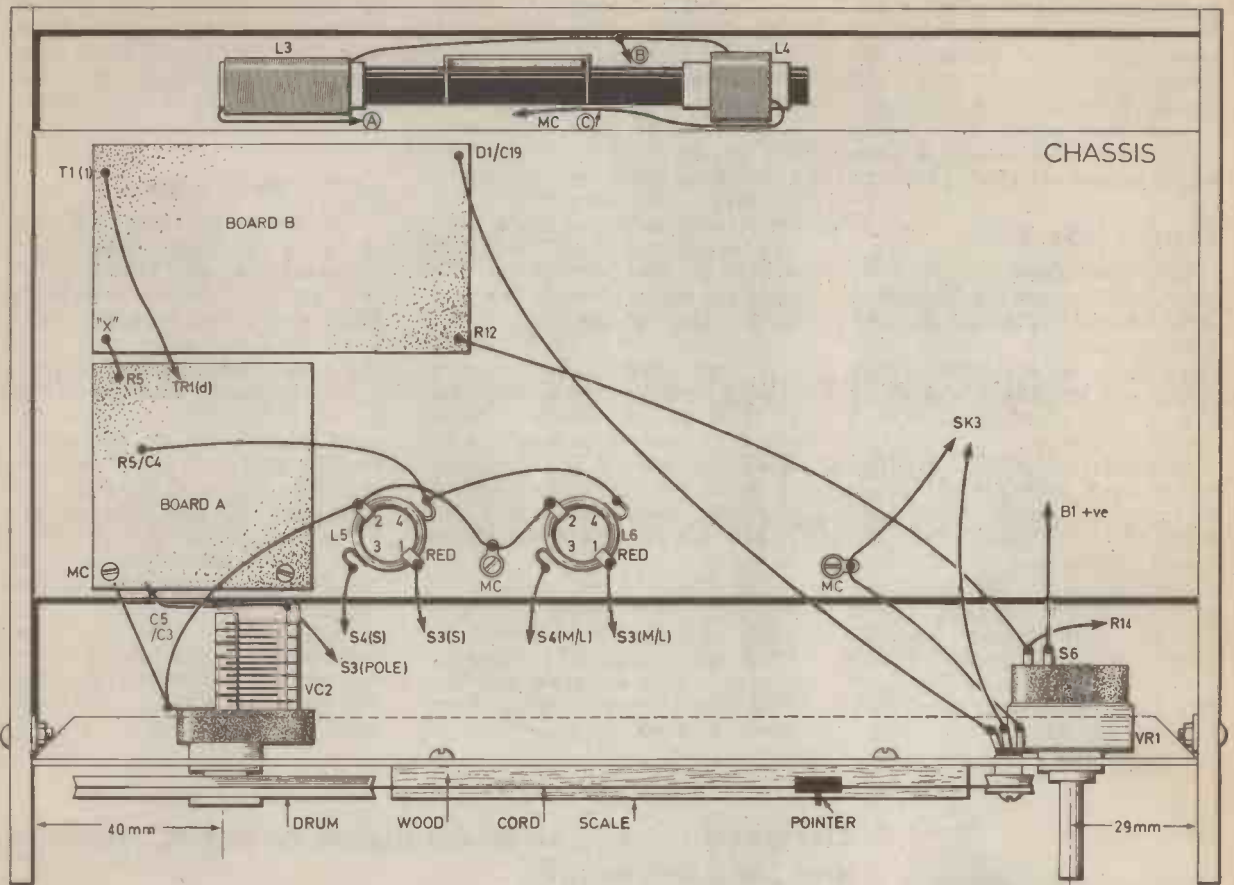
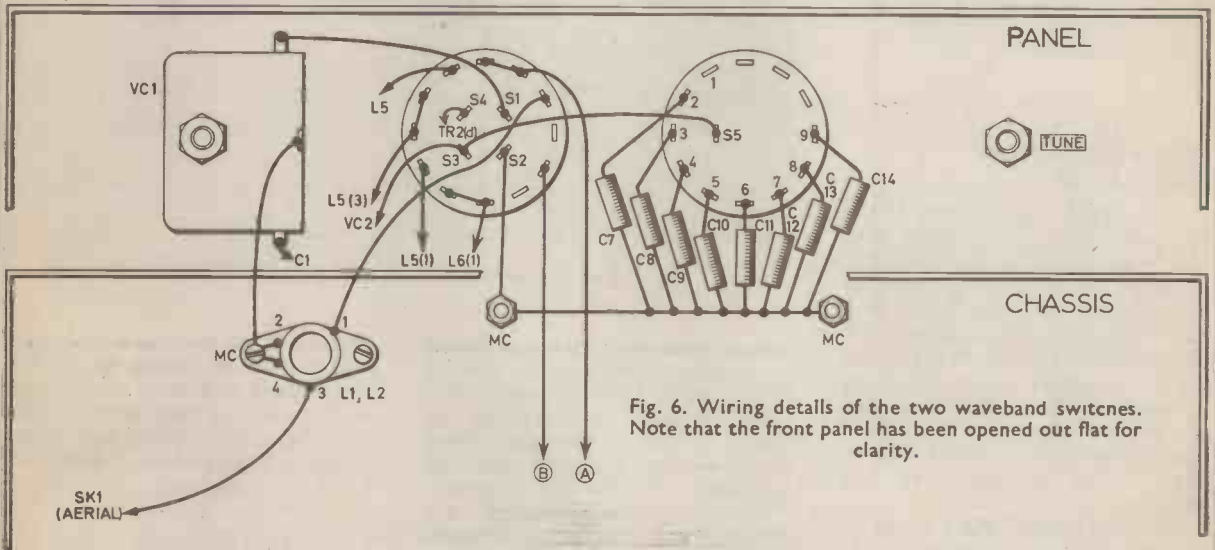

Fig. 5. Topside view showing position of component boards. Note that Wearite coils are shown as used in the prototype.
Fig. 6. Wiring details of the two waveband switches. Note that the front panel has been opened out flat for clarity.
I have had limited experience of electronics ('A'-level Physics failure, and I have knocked up radio's etc. from kit form and many years ago played with those early Phillips kits of electric wizardry for the under-15's), but I have never touched a circuit-board and I was confused by the diagram of Fig. 5 (page 116), of the *Quasi-Quad Adaptor* article, as I cannot differentiate between the "dots" and "circles" etc.. Could you clarify?
The area of Fig. 5 you refer to (dots and circles) shows the underside of a piece of Stripboard. Stripboard consists of strips of copper (shown white) bonded to a synthetic board (shown black). The board is perforated, with holes drilled on a regular matrix at 0.1 inch or 0.15 inch pitch. Not all these holes are shown on the drawing in order to avoid a cluttered effect, in fact only those immediately inside the perimeter of the board are shown.
The case sides are plywood, 190×115mm, and the chassis a 255×100mm "universal chassis" flanged member secured with four bolts through the flange holes, and set 63mm back as in Fig. 5. The chassis top is at a height of 38mm.
The panel is a similar member, but is fixed vertically with bolts through the flange holes, and leaving about 35mm clear between chassis and panel, as in Fig. 5. Holes for the lower controls are 25mm from the bottom, and 41mm and 100mm from the sides. Variable capacitor VC2 is mounted as shown in Fig. 5, so that the drive drum is about 3mm clear of the panel top.
Pivot one of the drive pulleys on a bolt as shown in Fig. 5 so that the top of the cord is level; the second pulley is mounted about level with the bottom of the drum. The cord has one complete turn round the tuning control shaft, and runs over the pulleys to the drum. Here, the ends are taken through the perimeter slot, and are tied to the spring, which keeps the cord taut.
The boards are fitted as shown in Fig. 5, which also shows interconnecting wiring. Inductors L5 and L6 are secured with 6BA bolts, and wired to a tag (MC) bolted to the chassis. After making the connections of Fig. 5, reference should be made to Fig. 6, an underside plan with the panel shown flat to clarify the switch wiring. It may be preferred to first wire S1/4 for one waveband only and then test the tuner. If this system is not used, take special care to ensure that the correct tags are used in wiring up the switch.
A 75x25mm strip of wood or paxolin is bolted to the rear flange of the chassis (Fig. 5) and the ferrite rod is secured to this with adhesive and thread or string. Coils L3 and L4 are positioned as shown and the leadout wires are taken to a small tag strip near the rod, so that longer leads can be run to S1 and S2; L4 must be the correct way round